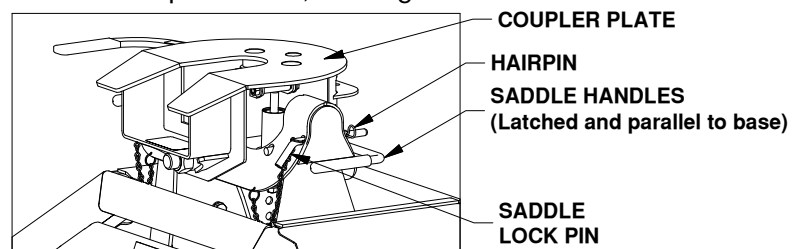

Figure E1: Coupler installed on base.
- Lubricate the polyurethane bushings on top of the pivot arms with high grade lithium grease (available at your local hardware/automotive store). Place the coupler over the pivot arms. (The saddle handles should be parallel with the base in the latched position.) Place the saddle lock pins through the saddle, then insert the hairpins through the holes in the end of the saddle lock pins to secure the coupler to the pivot arms, see Figure E1.